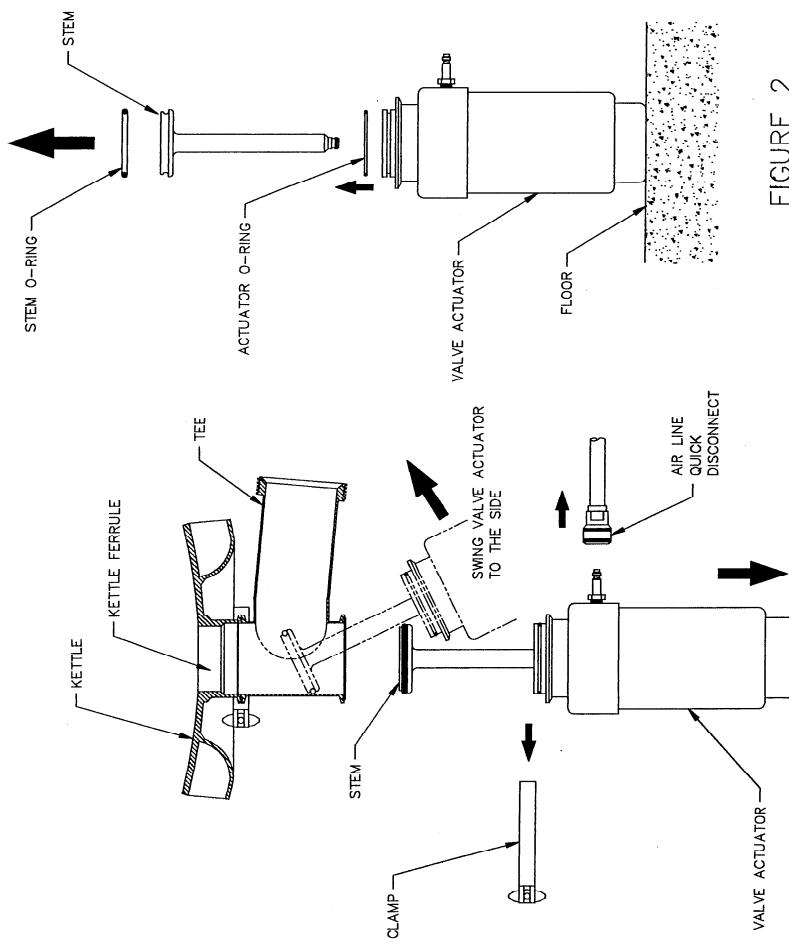

FIGURE 1
1. DISCONNECT THE AIR LINE FROM THE VALVE ACTUATOR AS SHOWN IN FIGURE 1.